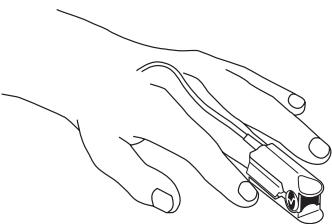

Fig. 3
- Orient the sensor so that the cable will be running towards the top of the patient's hand (Fig 3). Connect the sensor connector to a patient cable or directly to the device.